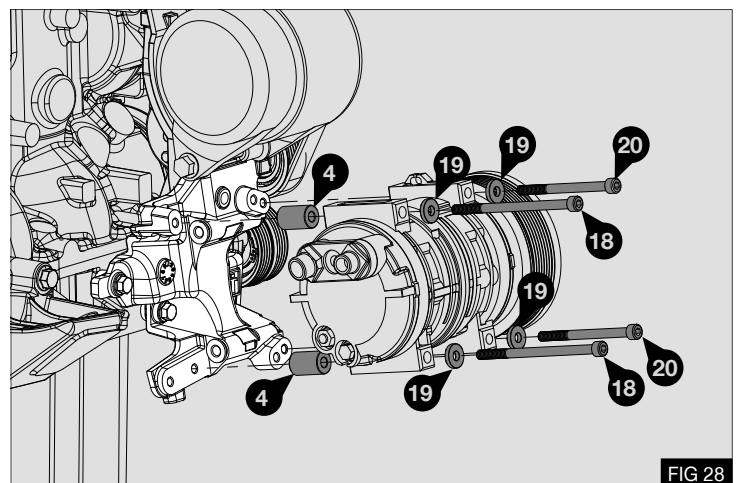

FIG 28
- Fit the compressor to the bracket (1) using M8 x 130 bolts (18) and M8 x 100 bolt (20) with washers (19) and spacers (4) - Fig 28
- Torque bolts (18), (20) to 35Nm / 26lbf